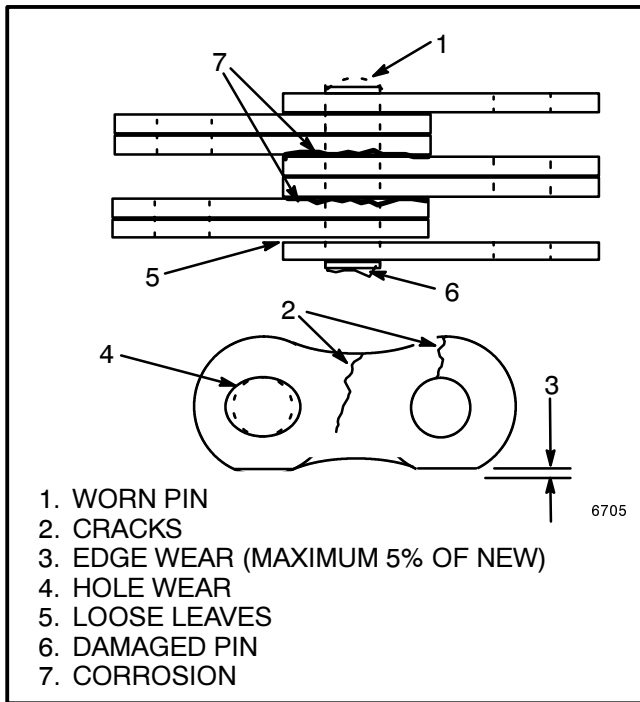

FIGURE 6. CHECK THE LIFT CHAINS
7. Inspect the lift and traverse chains for cracks or broken links and pins. See FIGURE 6.